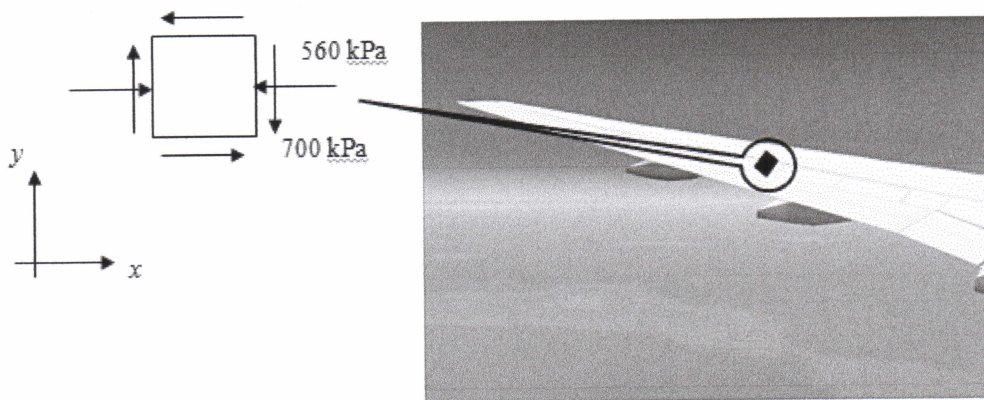

Figure Q4
- Q4.** The state of stress of a point on the upper surface of the airplane wing is shown on the element in **Figure Q4**. Determine: